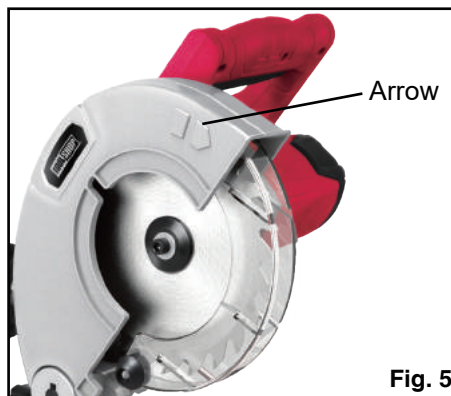

Fig. 5
2. When mounting the new saw blade, the direction arrows on the blade correspond with the arrow on the upper guard. (See Figure. 5)